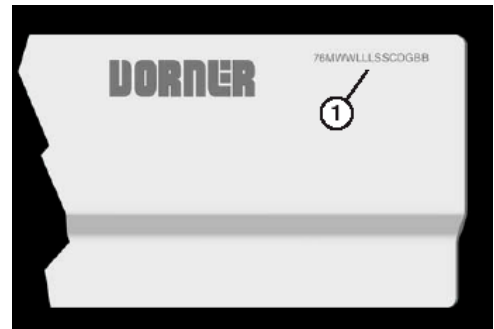

Figure 3
1. Locate the section number sequence etched on each section of frame (Figure 3, item 1).